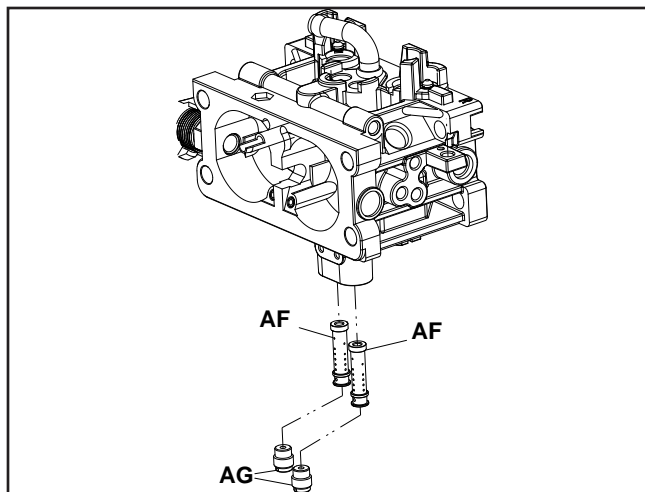

Figure 14
1. Using a flat screwdriver, loosen and remove the main jets (AG) (Figure 14).
2. Remove the main nozzles (AF) (Figure 14).